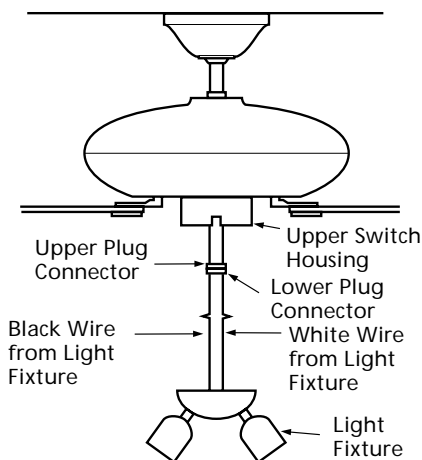

Figure 10a - Wiring Light Fixture to Fan
3. Connect the upper plug connector from the motor to the lower plug connector in the light assembly. See Figure 10a.
7. Connect the upper plug connector from the motor to the lower plug connector in the lower switch housing assembly. See Figure 10a.
8. Place the lower switch housing assembly over the upper switch housing. Align the side screw holes in the upper and lower switch housings. Attach the lower switch housing to the upper switch housing with three #6-32 x 3/8" housing assembly screws. See Figure 10a.